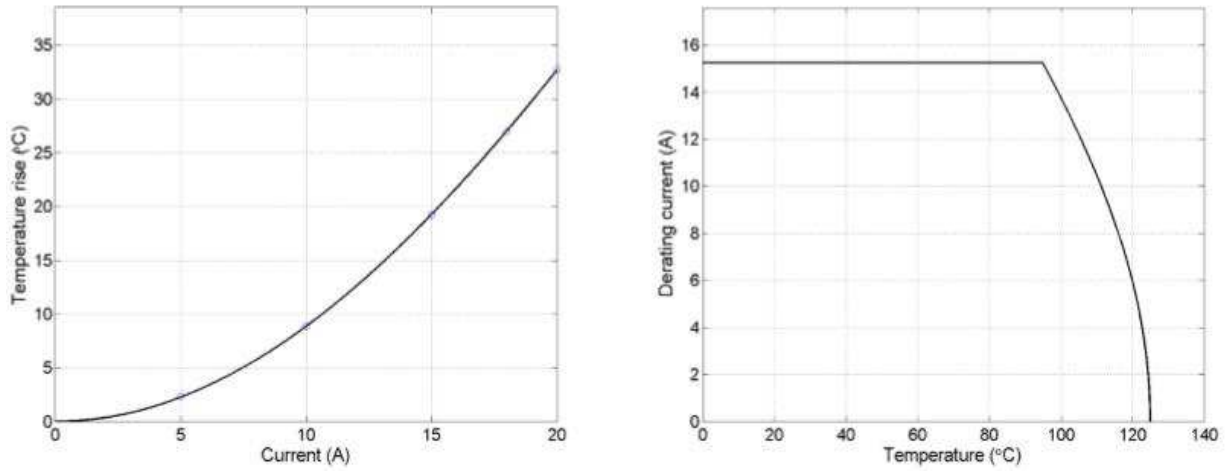

Figure 2- typical derating curve of 2238172-3 AWG14#
2.2 Refer to figure 2 for the curve of 2238172-3 (Faston) with AWG14#.